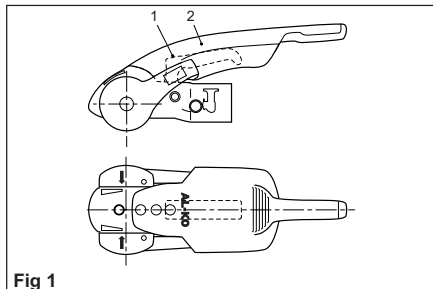

Fig 1
Coupling handle (Fig. 1/Item 1), Stabiliser Lever (Fig. 1/Item 2)
- Pass the cable through the attachment point and clip it back on itself (Fig. 1).